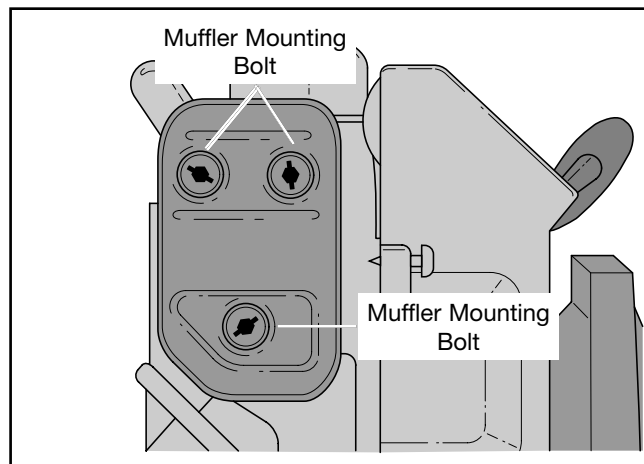

Fig. 45
1. Install a new muffler gasket and place the muffler baffle in place (Fig. 45).